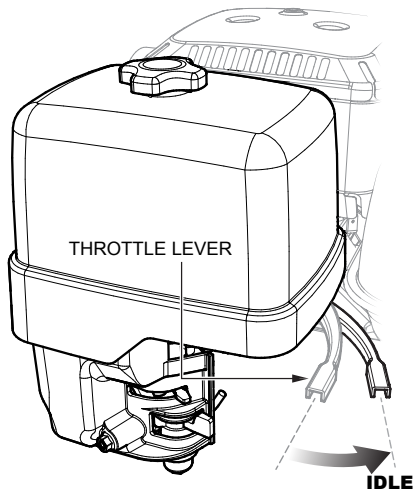

Figure 15. Throttle Lever (Idle)
1. Move the throttle lever to the **IDLE** position (Figure 15) and run the engine for three minutes at low speed.